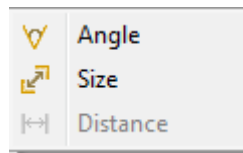

Figure 4. Dimension sub menu items
- **Dimension** - to add measurement annotation to a geometry object. This menu contains a sub menu, where available dimensions are listed (see Figure 4):